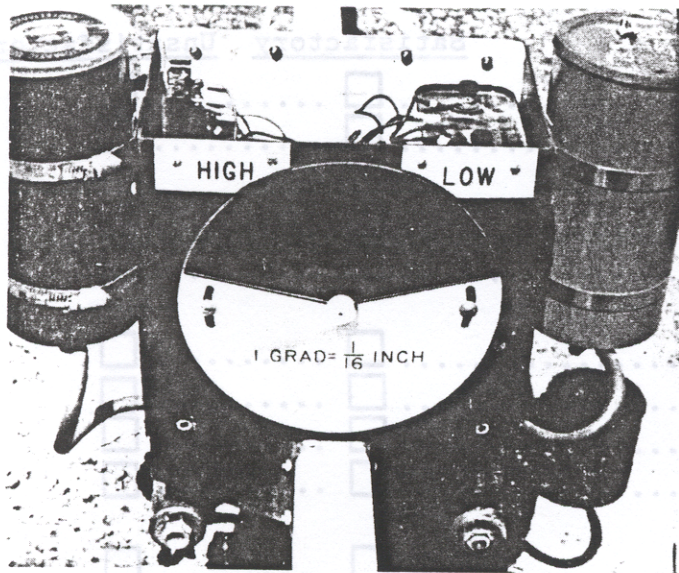

Figure 7
(2) *Unit with Adjustable Face* - To adjust units with round face and non-adjustable gear loosen the two bolts located in slots cut through the face of the dial; rotate the dial face until the pointer reads zero; retighten the screws. (see Figure 7.)